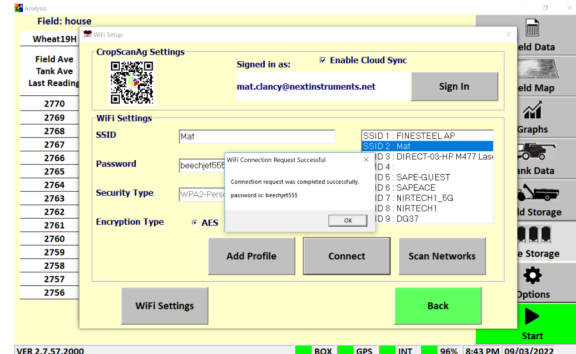

Figure 4.3. Wifi Hotspot Connection
- Press the **Connect** button and wait for a Wi-Fi Connection Request notification as shown in figure 4.3.